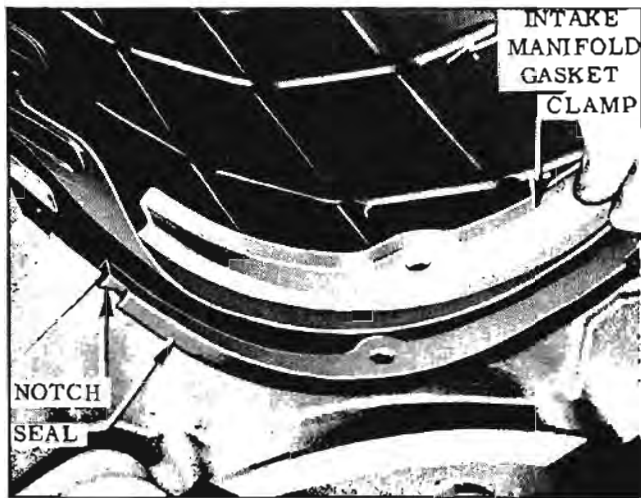

Fig. 8-103 Intake Gasket End Seals
2. Install end seals and clamps. (Fig. 8-103) Lubricate bolts with engine oil and torque bolts 10-15 ft. lbs.